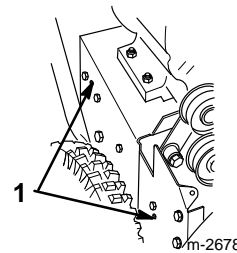

Figure 31
16. Install the two screws that secure the auger brake arm assembly. Ensure that the tabs fit into the holes in the left side of the snowthrower (Fig. 31).
13. Install the two screws that secure the auger brake arm assembly. Make sure that the tabs fit into the holes in the left side of the snowthrower (Fig. 31).